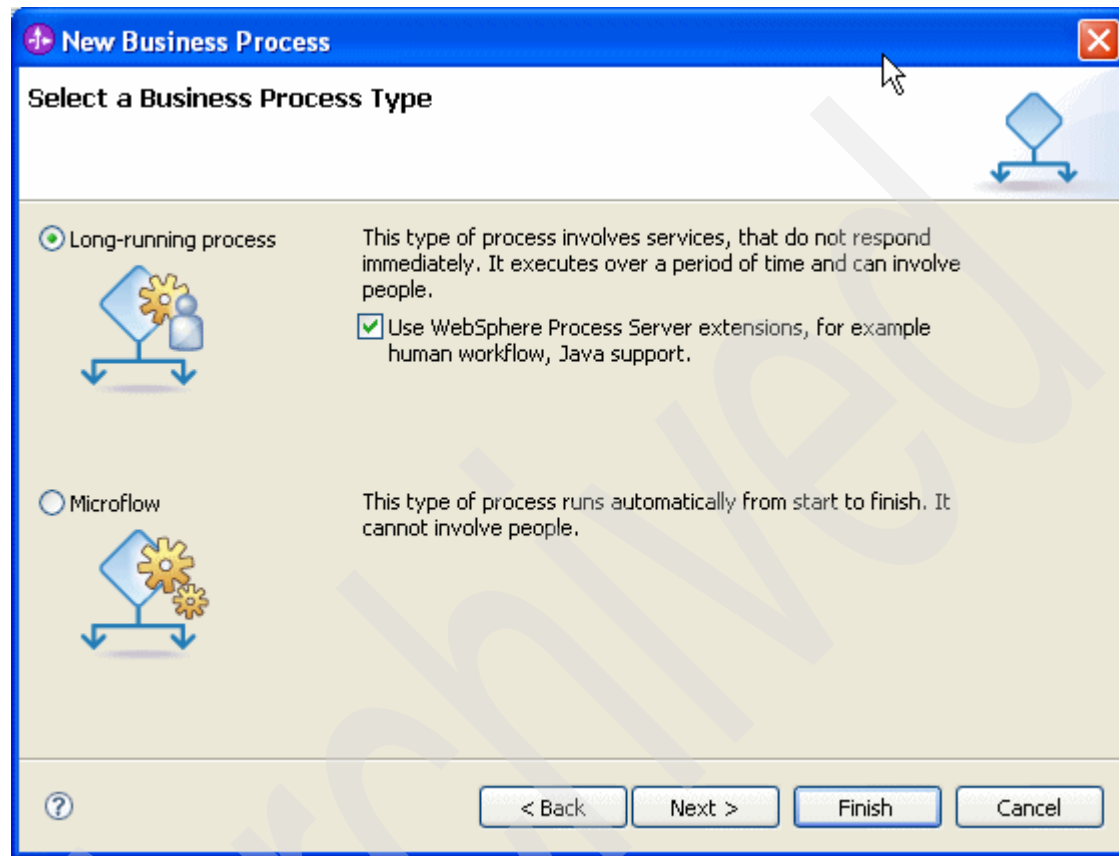

Figure 3-10 Selecting the business process type in the New Business Process wizard
3. Select **Long-running process** for the business process type (as shown in Figure 3-10, and then click **Next**.